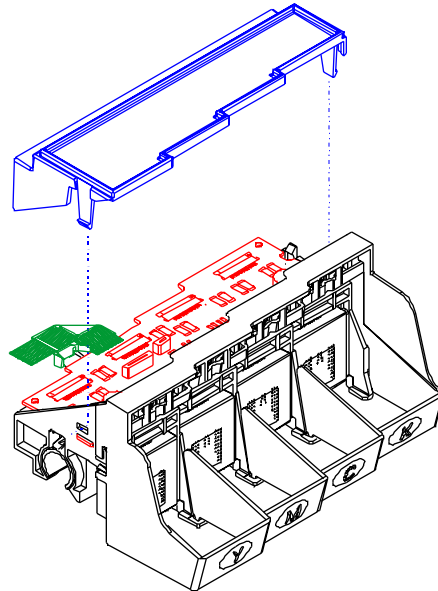

Figure 5-3. Electronics Cover Removal.
4. Lift up on the front left side of the Electronics Cover until it comes part way off of the Carrier Assembly. Then lift up on the front right side of the Electronics Cover and move the Electronics Cover slightly to the left so that the back of it clears the Trailing Cable Support Assembly. See Figure 5-3.